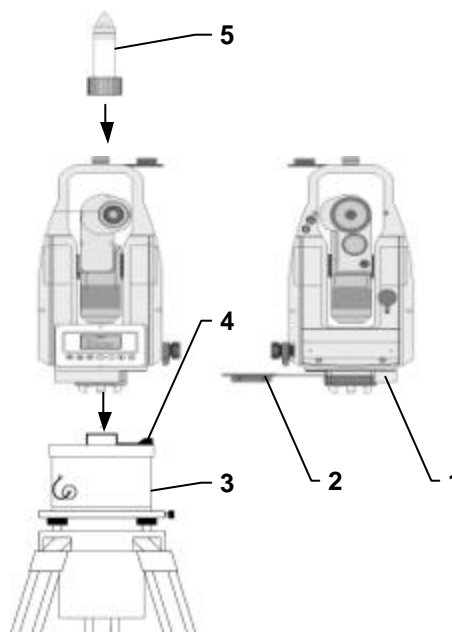

Figure 2-3. Mounting the Digital Electronic Theodolite
- Center the bubble in circular leveling vial (6) on the theodolite using leveling screws (7) on the tripod (Figure 2-3). NOTE: "USE THE LEFT THUMB RULE"